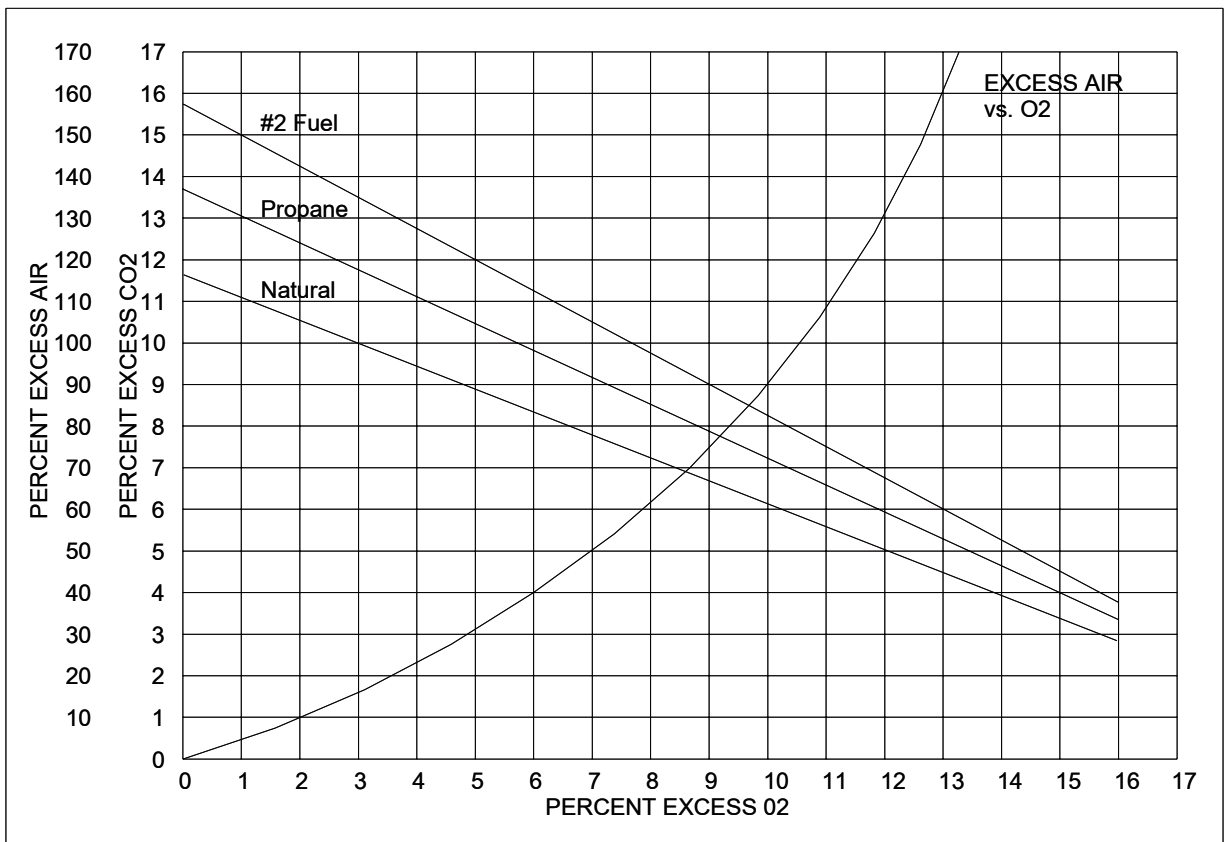

Figure 5: CO₂ versus O₂
- 3.1.2 See **Figure 5** for CO₂ versus O₂ Curves. These curves correlate the relative values of O₂ and CO₂ for the fuels listed, as well as the percentage of excess air at given O₂ and CO₂ values.